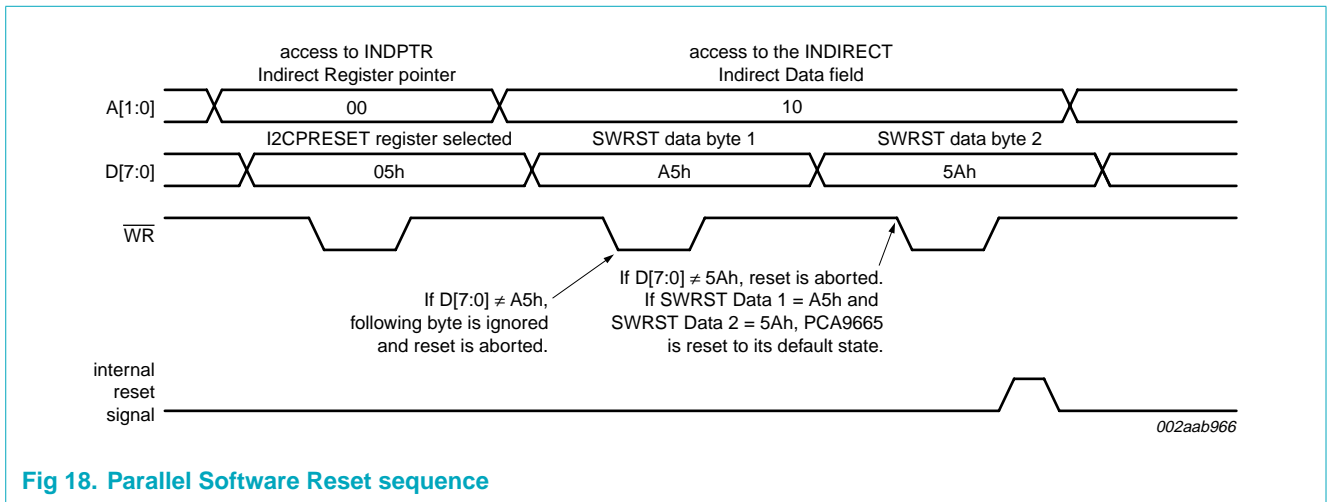

Fig 18. Parallel Software Reset sequence
- By using the Parallel Software Reset sequence as described in Figure 18.